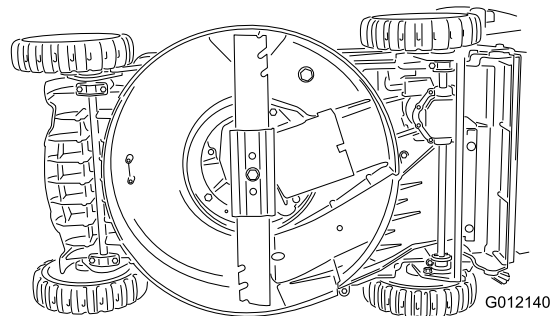

Figure 23
2. Tip the machine onto its side (Figure 23), with the dipstick down.